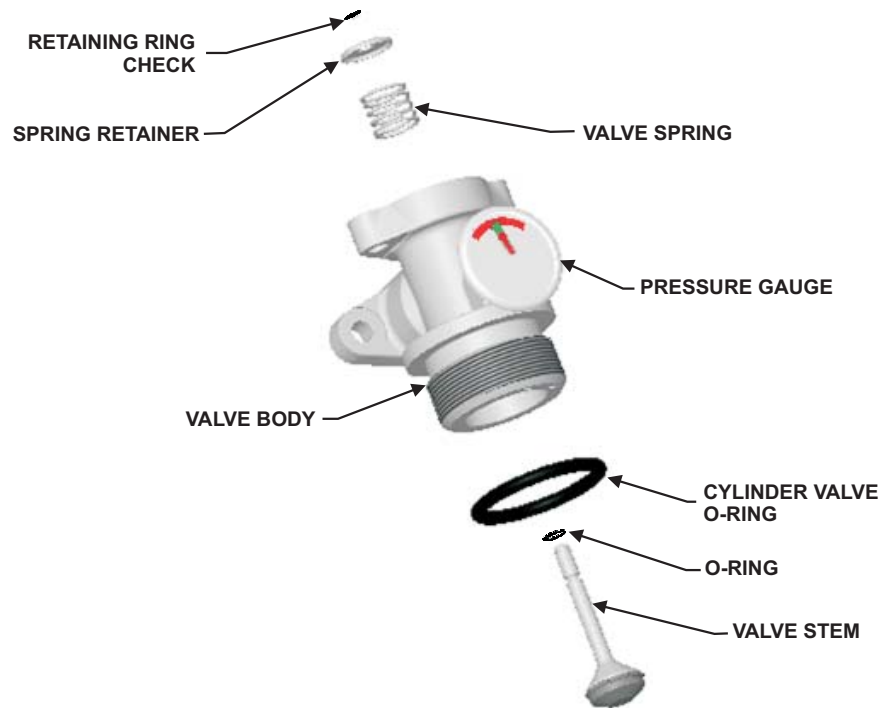

Figure 5-16. Valve Assembly, Exploded View
4. Put a light coating of lubricant (supplied in the Valve Rebuild Kit) on the valve stem O-ring. Do not grease the bonded seal on valve check (see Figure 5-16).